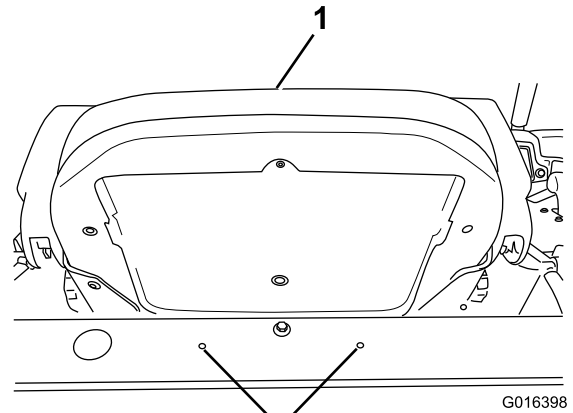

Figure 11
- Use a drill to enlarge 2 existing holes in the rear cross member (located behind the seat) to 8.5 mm diameter (Figure 11).